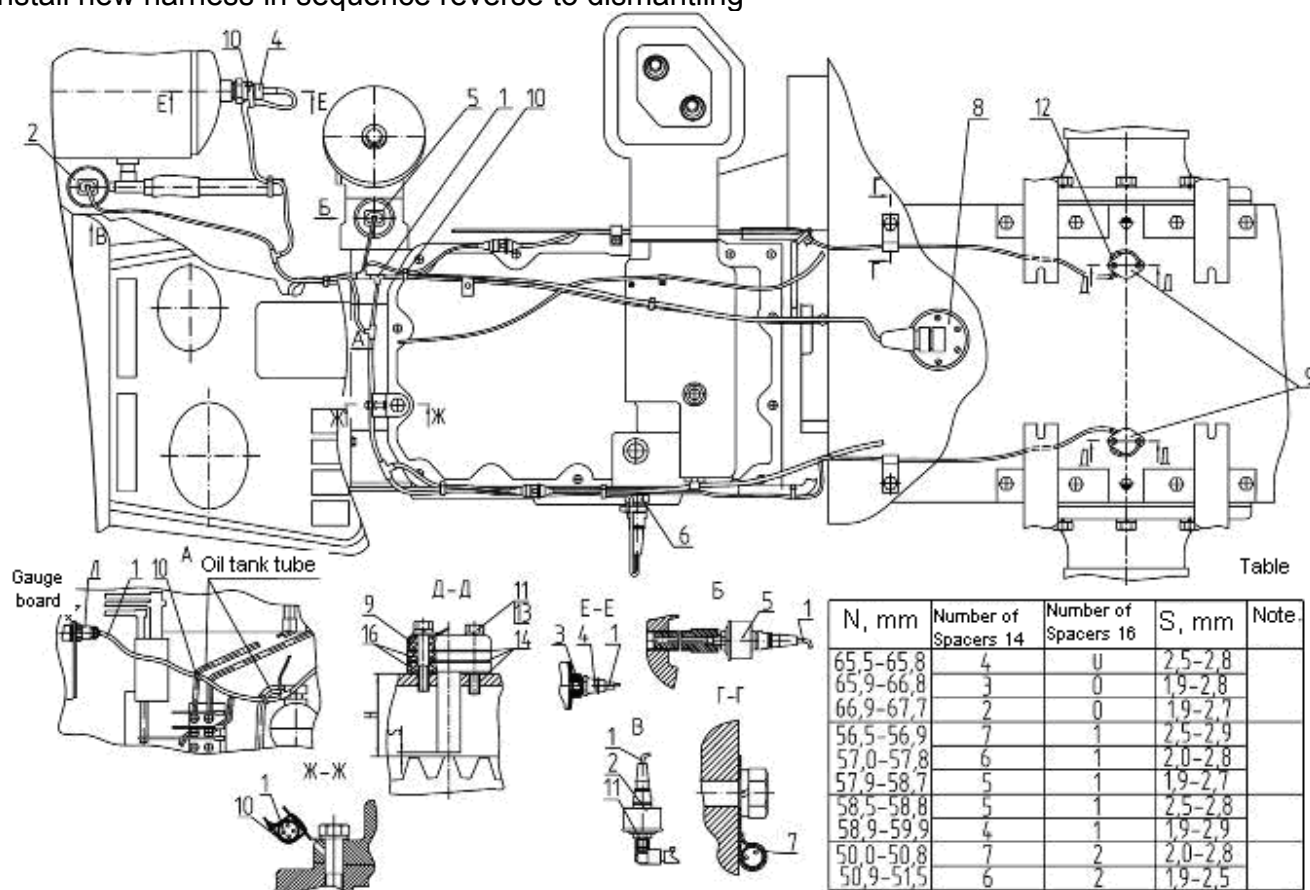
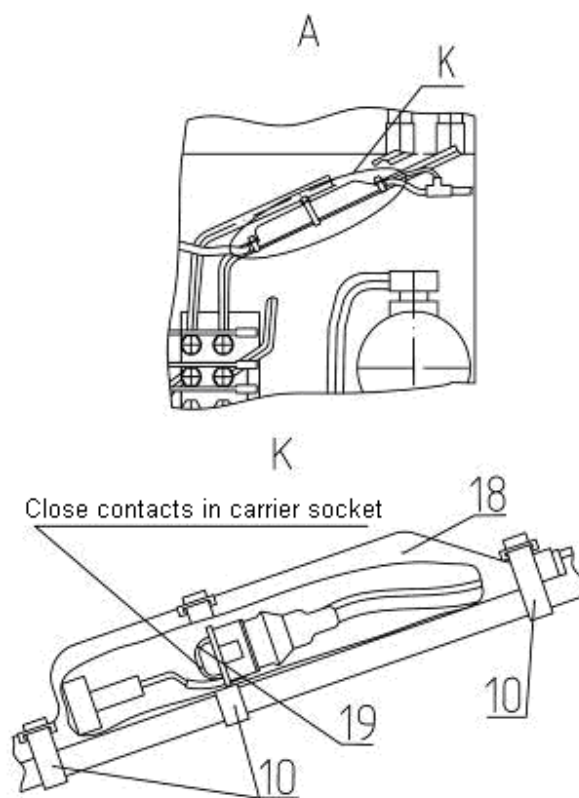

Figure 11.6 Transmission electrical equipment of tractors BELARUS-1221.2/1221B.2/1221.3
Figure 11.7 When tractor is not equipped with pneumatic system.
- a) disconnect connector "L" of harness 1 (Figure 11.6) from connector of dashboard, situated on front cabin wall;
- b) dismantle harness 1 (Figure 11.6), and disconnect its carrier sockets from:
- 6.1) sensor of fuel level 8 (Figure 11.6) mounted on tractors BELARUS-1221.2/1221.3;
Dismounting of air pressure sensor 2 (Figure 11.6):
- a) disconnect coupling carrier socket of harness 1 (Figure 11.6 view "B");
Dismounting of sensor of emergency air pressure 4 (Figure 11.6):
- a) disconnect coupling carrier socket of harness 1 (Figure 11.6 "E-E");
Where pneumatic system is not installed on tractor, tie outlets of air pressure sensor 2 (Figure 11.6) and sensor of emergency air pressure in knot, place in PVC pipe 8 (Figure 11.7) and fasten with collars 10, having first put a jump in two-terminal carrier socket 19.
Dismounting of oil pressure sensor 5 (Figure 11.6) in GB:
Dismounting of speed sensors: 9 (Figure 11.6):
- c) disconnect fastening bolts 11 (Figure 11.6 "Д-Д") with washers 13;